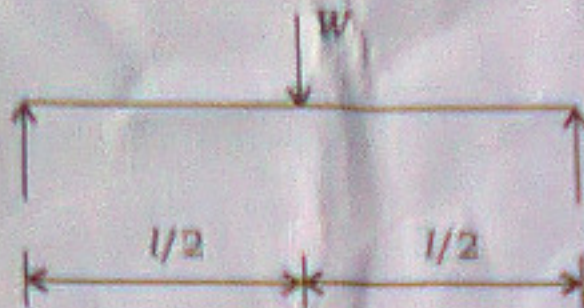

Fig. 7
8. Analyze the beam as shown in Fig. 7, using matrix method.